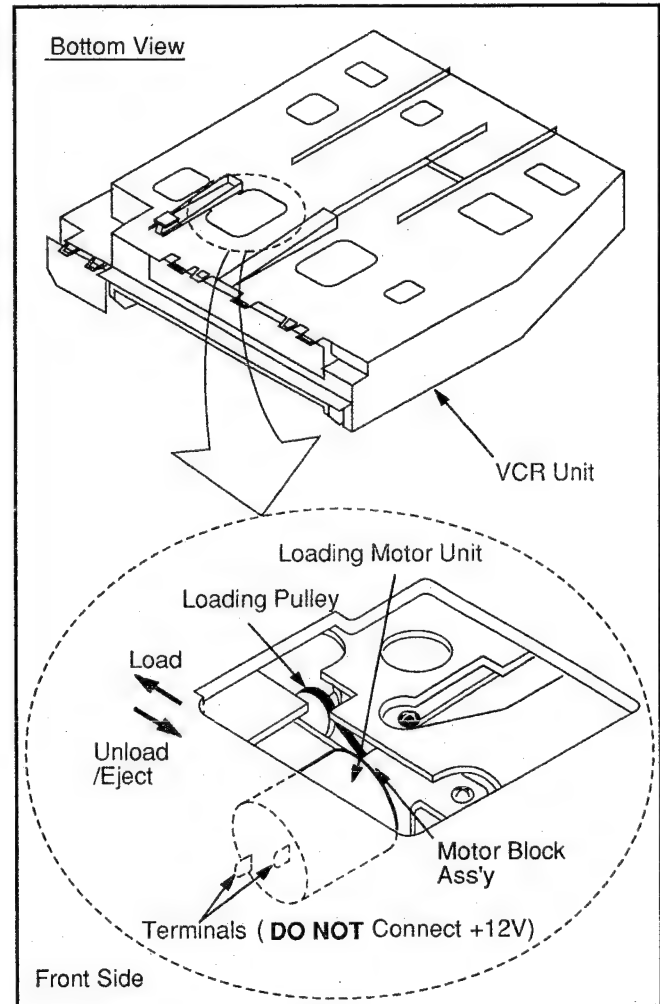

Fig. 8
Turn the Loading Pulley of the Motor Block Ass'y (shown in Fig. 8) counterclockwise (for loading) or clockwise (for unloading) as viewed from the Front Side.
8. Rotate Loading Pulley to unload the Mechanism from the bottom side of VCR Unit as shown in Fig. 8.